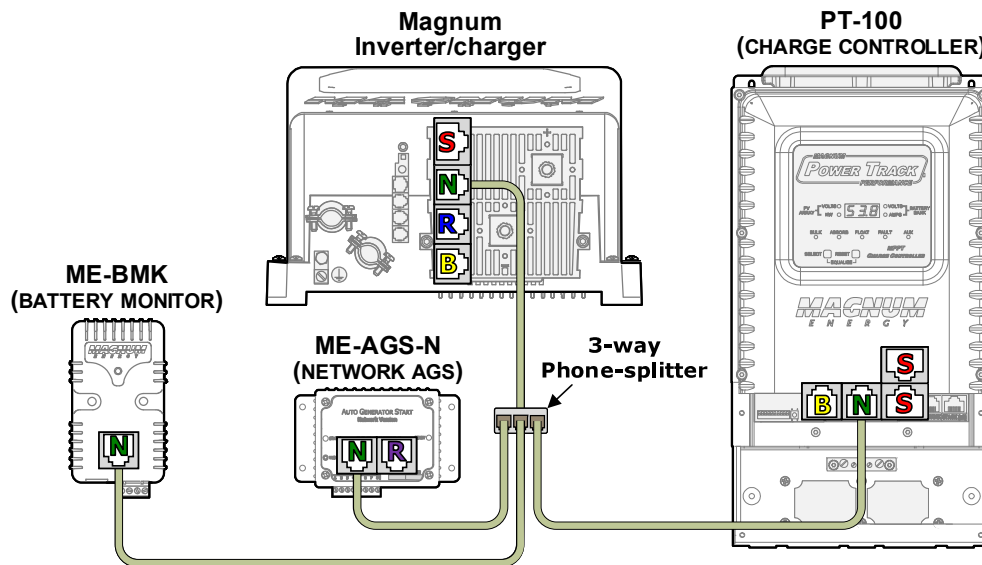

Figure 2-6, Multiple Network Devices with PT-100 – Star Configuration
- Star Configuration** – In this arrangement, all network devices connect to the inverter's network port* via a phone-splitter, using individual cable runs (Figure 2-6). As each device is independently connected to the inverter's network port, problems in a cable or in a device can be easily isolated—if there is a cable failure to one device it does not bring down all the other devices.